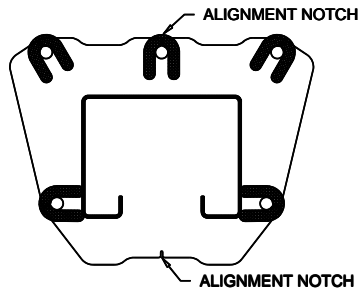
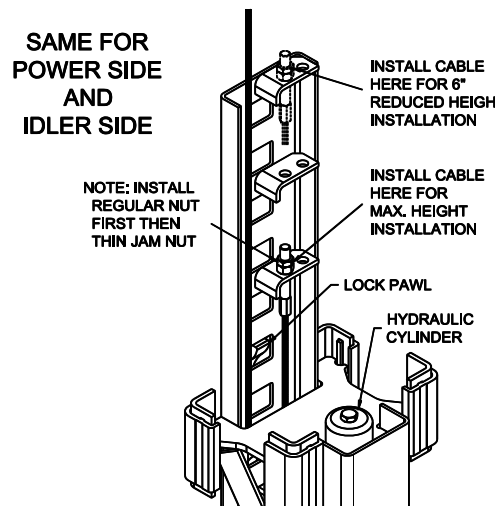

Fig 2 – Column Shimming
Fig 7b – Attaching Cable from Below
- 3) Erect both column assemblies. Align the notches in column base, **Fig 2**, with the installation lines. (HINT: It may be easier to install the lower synchronizer cable, Fig 7b, before columns are raised)
- 8) Shim both columns to plumb using the shims provided as shown in **Fig 2**. DO NOT shim more than 1/2" at any given point. Use a level no less than 24" in length to plumb columns.
- 12) Check idler column shimming. Use additional shims (*see Fig. 2*) to remove any gaps that may have been created while installing overhead beam. Tighten anchor bolts and recheck column for plumb. Torque to 150 foot pounds.